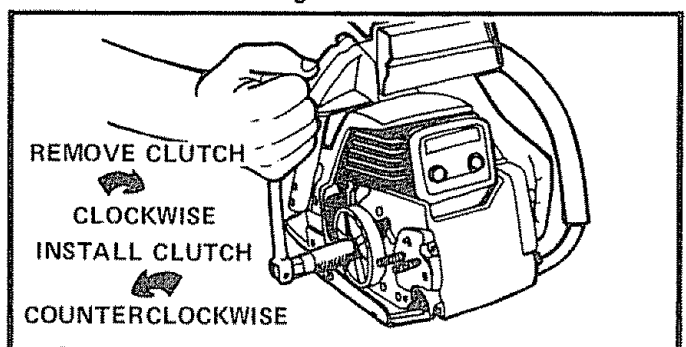

Figure 53
5. Remove the clutch with a 3/4" socket or end wrench in a clockwise direction. Figure 53.
7. Install clutch in a counterclockwise direction. Figure 53